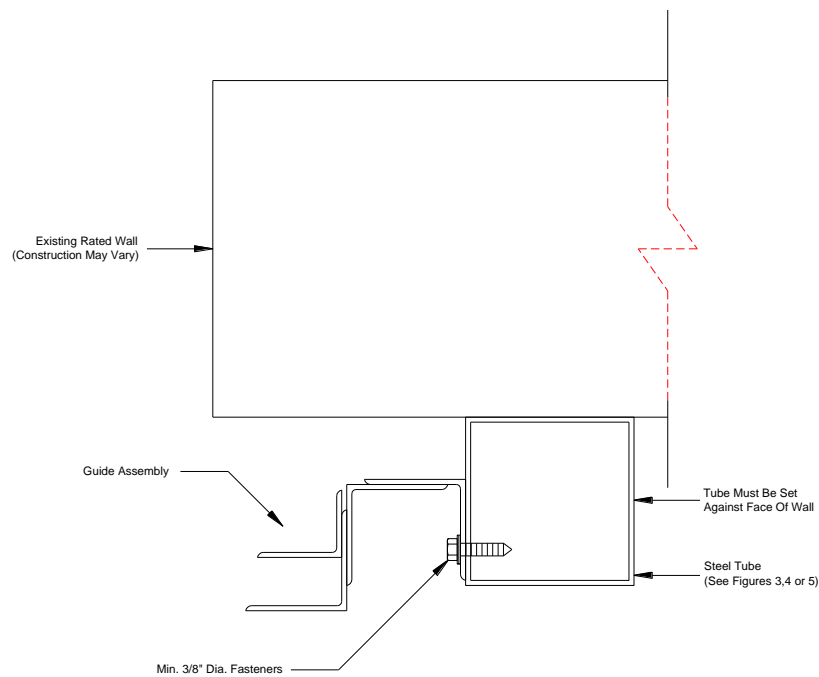

Figure 2
- Figure 2: “Z” mounted guide configuration; exposed steel tube